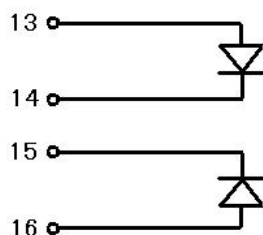

Figure 2-3: Schematic of Pin13~Pin16 of IPort-1
- Pin13~Pin14: R_LED+, R_LED- are pins of the device internal LED, the schematic is shown in Figure 2-3. User can use them to indicate NET_LINK signal or user signal.
- Pin15~Pin16: L_LED-, L_LED+ are pins of the device internal LED, the schematic is also shown in Figure 2-3. User can use them to indicate NET_LINK signal or user signal (Notes: When using R_LED or L_LED, user should pay attention to the polarity of the pins).